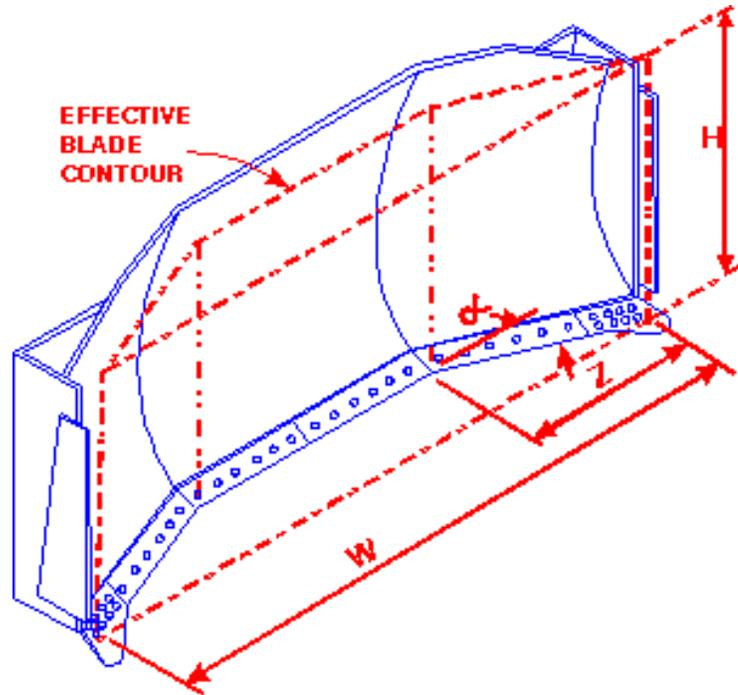

FIG. 4 - EFFECTIVE BLADE CONTOUR - SEMI-U & U-BLADES
4.2.4 Effective Blade Contour (Fig. 4)-Simplified representation of the blade face for calculating the blade capacity. It is established by intersecting planes extending vertically from the cutting edge at ground line, with the blade in mid-pitch position. The frontal dimensions are  $W$  and  $H'$ .
4.2.5 Wing Angle ( $a$ , Fig. 4)-Wing angle in degrees measured at the cutting edge at ground line with the blade in the mid-pitch position. This angle describes the orientation of the intersecting planes that establish the effective blade contour.
4.2.6 Wing Length ( $Z$ , Fig. 4)-Wing length in meters parallel to the blade width.